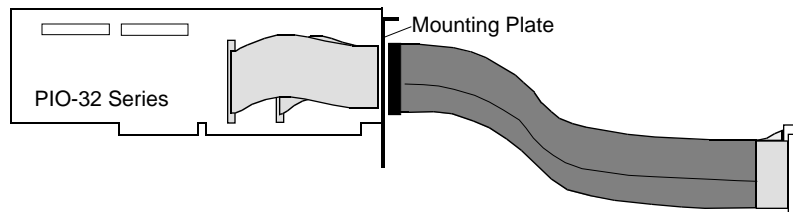

Figure 3. Cabling Wrapped with Jacket to Tape Boundary
4. Beginning at the tape marker, cover the cabling with a single piece of jacket to the desired length, as shown in Figure 3.